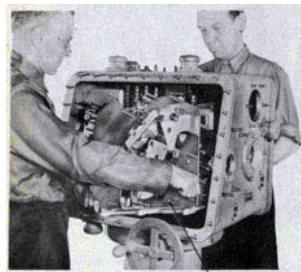

Figure 114-Removal of Computer Through Front
58. To remove the computer from the case, tip the right-hand side of the computer upward as far as possible and slip the unit through the front of the director case. See figure 114.